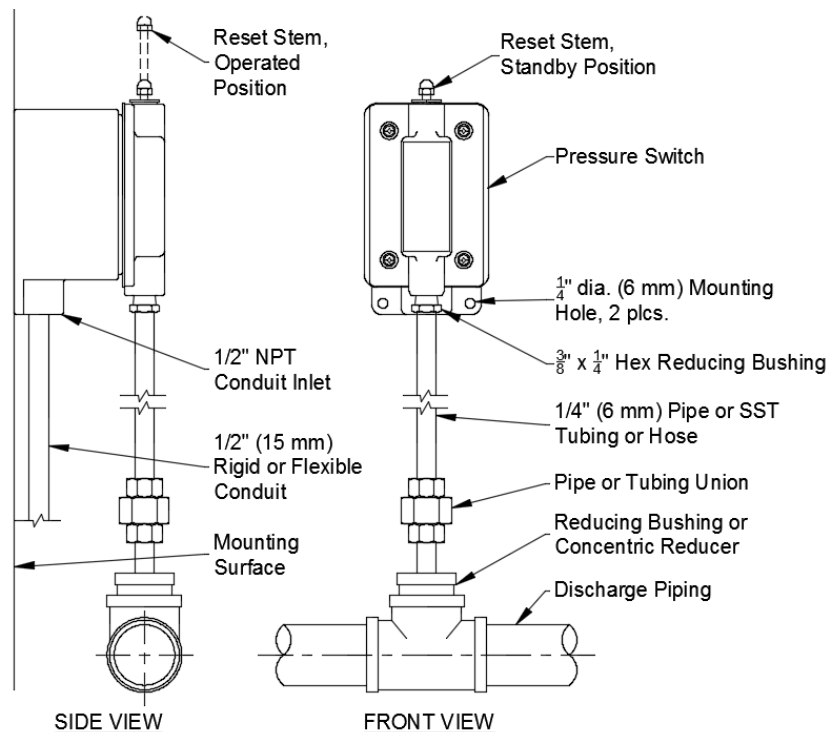

Figure 63 - Discharge Pressure Switch Installation
- Step 9. Pull wiring from the releasing panel through the electrical conduit into the pressure switch and connect the wiring to the pressure switch terminals. See Figure 63.
Figure 63 shows how to wire the double-pole-single-throw (DPST) switch contacts to the releasing panel's 'Manual Release' input. Refer to the Control Panel Manufacturer's manual for specific wiring details.